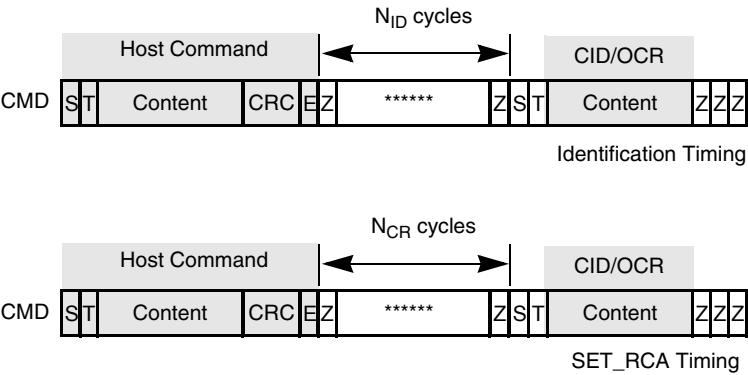
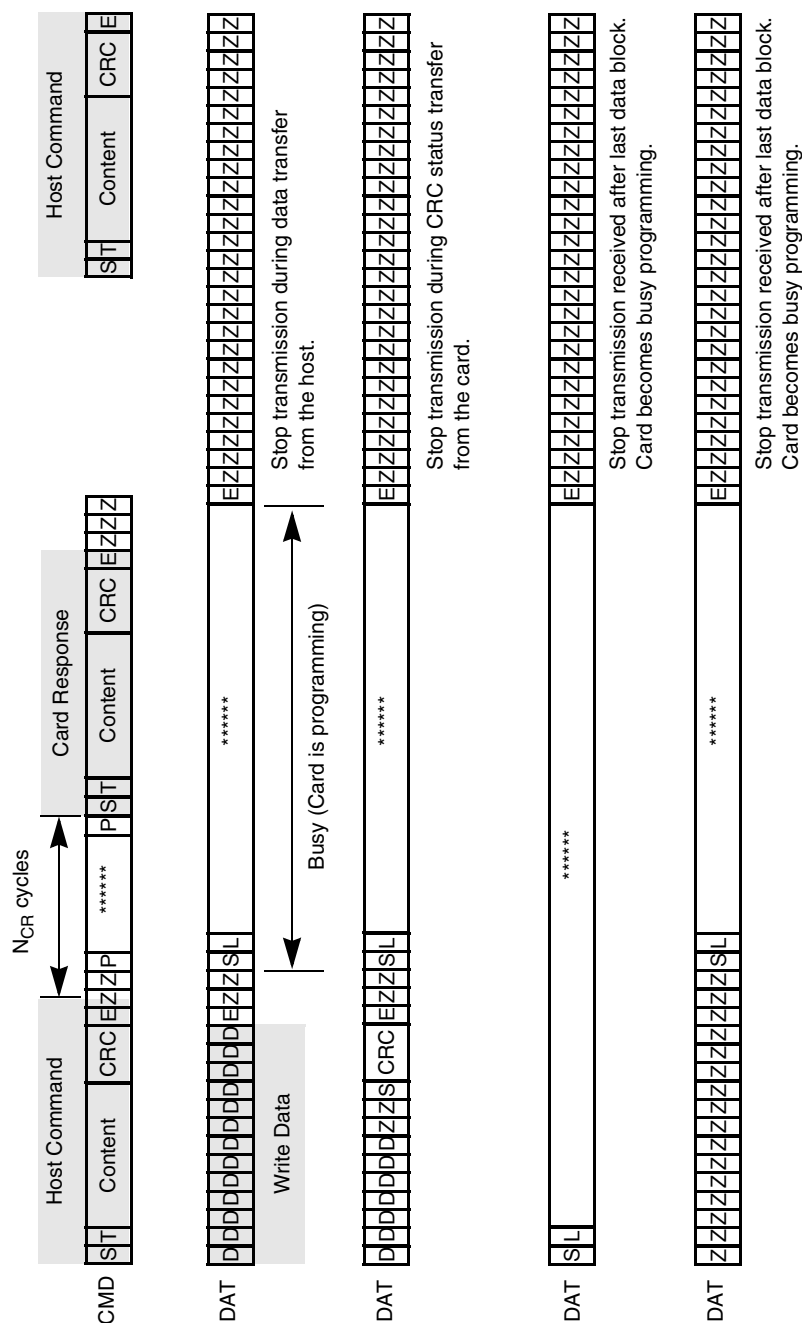

Figure 26. Timing Diagrams at Identification Mode
Figure 30. Stop Transmission During Different Scenarios
The card identification and card operation conditions timing are processed in open-drain mode. The card response to the host command starts after exactly  $N_{ID}$  clock cycles. For the card address assignment, SET\_RCA is also processed in the open-drain mode. The minimum delay between the host command and card response is  $N_{CR}$  clock cycles as illustrated in Figure 26. The symbols for Figure 26 through Figure 30 are defined in Table 26.
Table 26. State Signal Parameters for Figure 26 through Figure 30
Table 27. Timing Values for Figure 26 through Figure 30
**Table 27. Timing Values for Figure 26 through Figure 30 (Continued)**